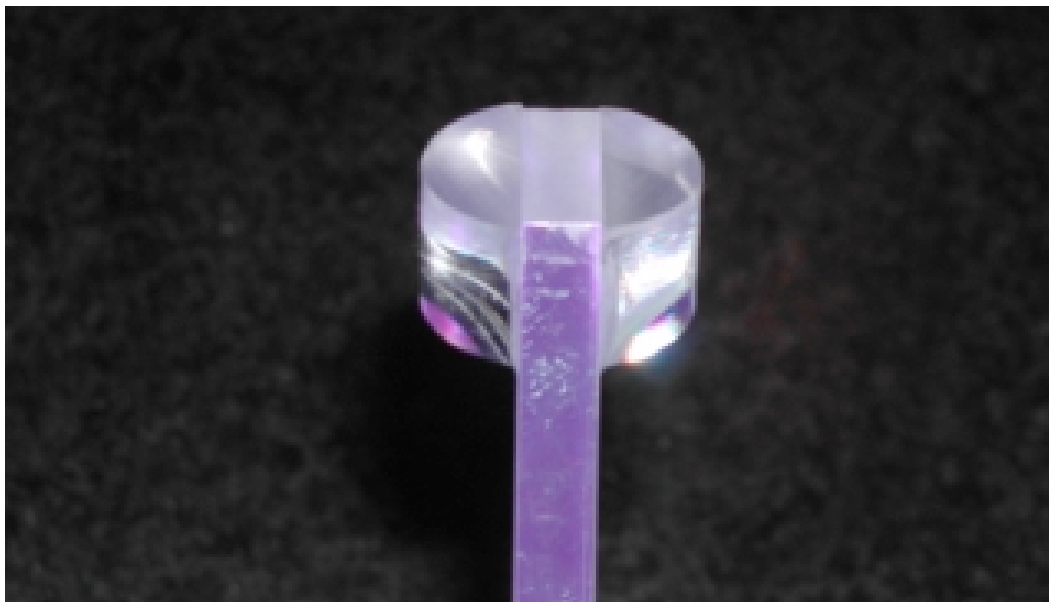

Figure 3: *Lucite cookies (half cylinders) attached to 3/4-inch end of scintillator (center strip).*
The Lucite cookies (Figure 3) attach to the end of the scintillator (the end that will be joined with the photomultiplier tube). They fill in the extra space not taken by the scintillator end on the photomultiplier. They are helpful only if you plan to glue the scintillator to the photomultiplier; they provide a broader gluing surface. Because of this purpose, the cookies do not even need to be Lucite; any plastic — even left over scintillator — is sufficient. However, try to find a material that will absorb a minimum of light (that is, a black material is not a good choice). Preparing the cookies involves several steps similar to preparing the scintillator itself: cutting, gluing, and polishing. The cookies may be attached to the scintillator before or after it has been polished.
7. **Glue the bases of each semicircle wing to the top and bottom surfaces of the scintillator at its 3/4-inch edge.** Be sure to glue the cookies such that their semicircular flat surfaces are flush against the 3/4-inch edge of the scintillator (Figure 3). This is especially important if you are gluing the cookies after polishing the scintillator.